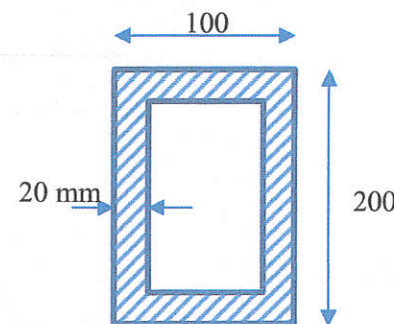

Figure 3b
- b. Determine the neutral axis and the second moment of area of the beam with a cross section as shown in Figure 3b.